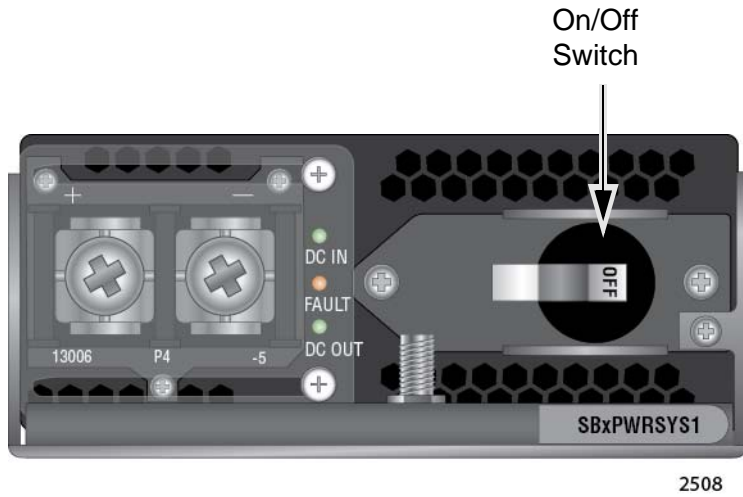

Figure 73. On/Off Switch on the AT-SBxPWRSYS1 DC Power Supply
4. Verify that the On/Off switch on the power supply is in the Off position. Refer to Figure 73 on page 147.